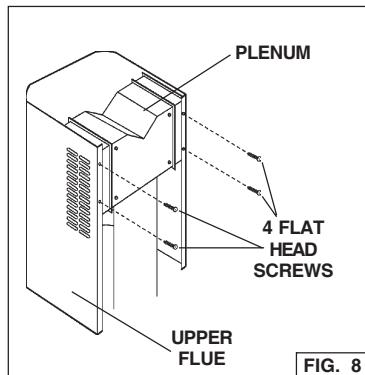

FIG. 8
9. Secure the recirculation plenum to the upper flue with (4) flat head screws. Fig. 8.